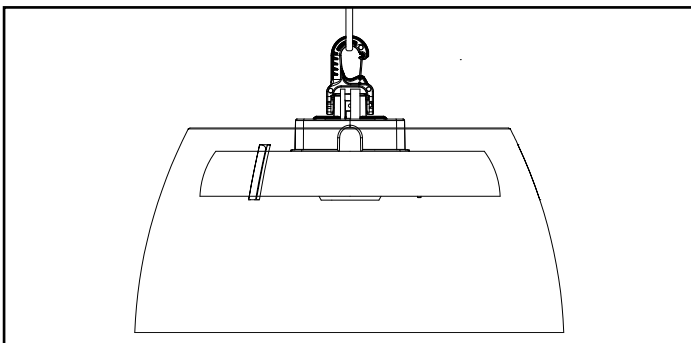

Figure 4.
5. Hang fixture to structure (by others). (Figure 4)
2. Push latch to unlock (Fig. 4).